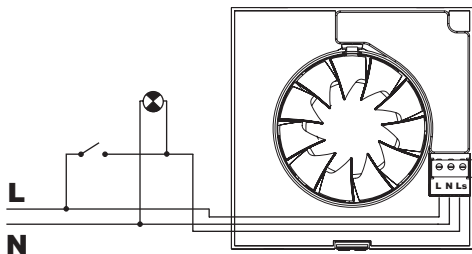

Fig.8
**Case 2:** Automatic operation as in case 1 with the facility to override the hygrostat by means of the light switch (fig.8), when the humidity level in the room is lower than the selected level. In this case, the extractor continues to operate for the selected period set on the timer after the switch light has been switched off.
**Case 2:** Automatic operation as in case (1) but with the facility to override the humidistat by means of the light switch (fig.8), when the humidity level in the room is lower than the selected level. In this case, the extractor continues to operate for the selected period of time (over-run timer) after the switch light has been switched off.